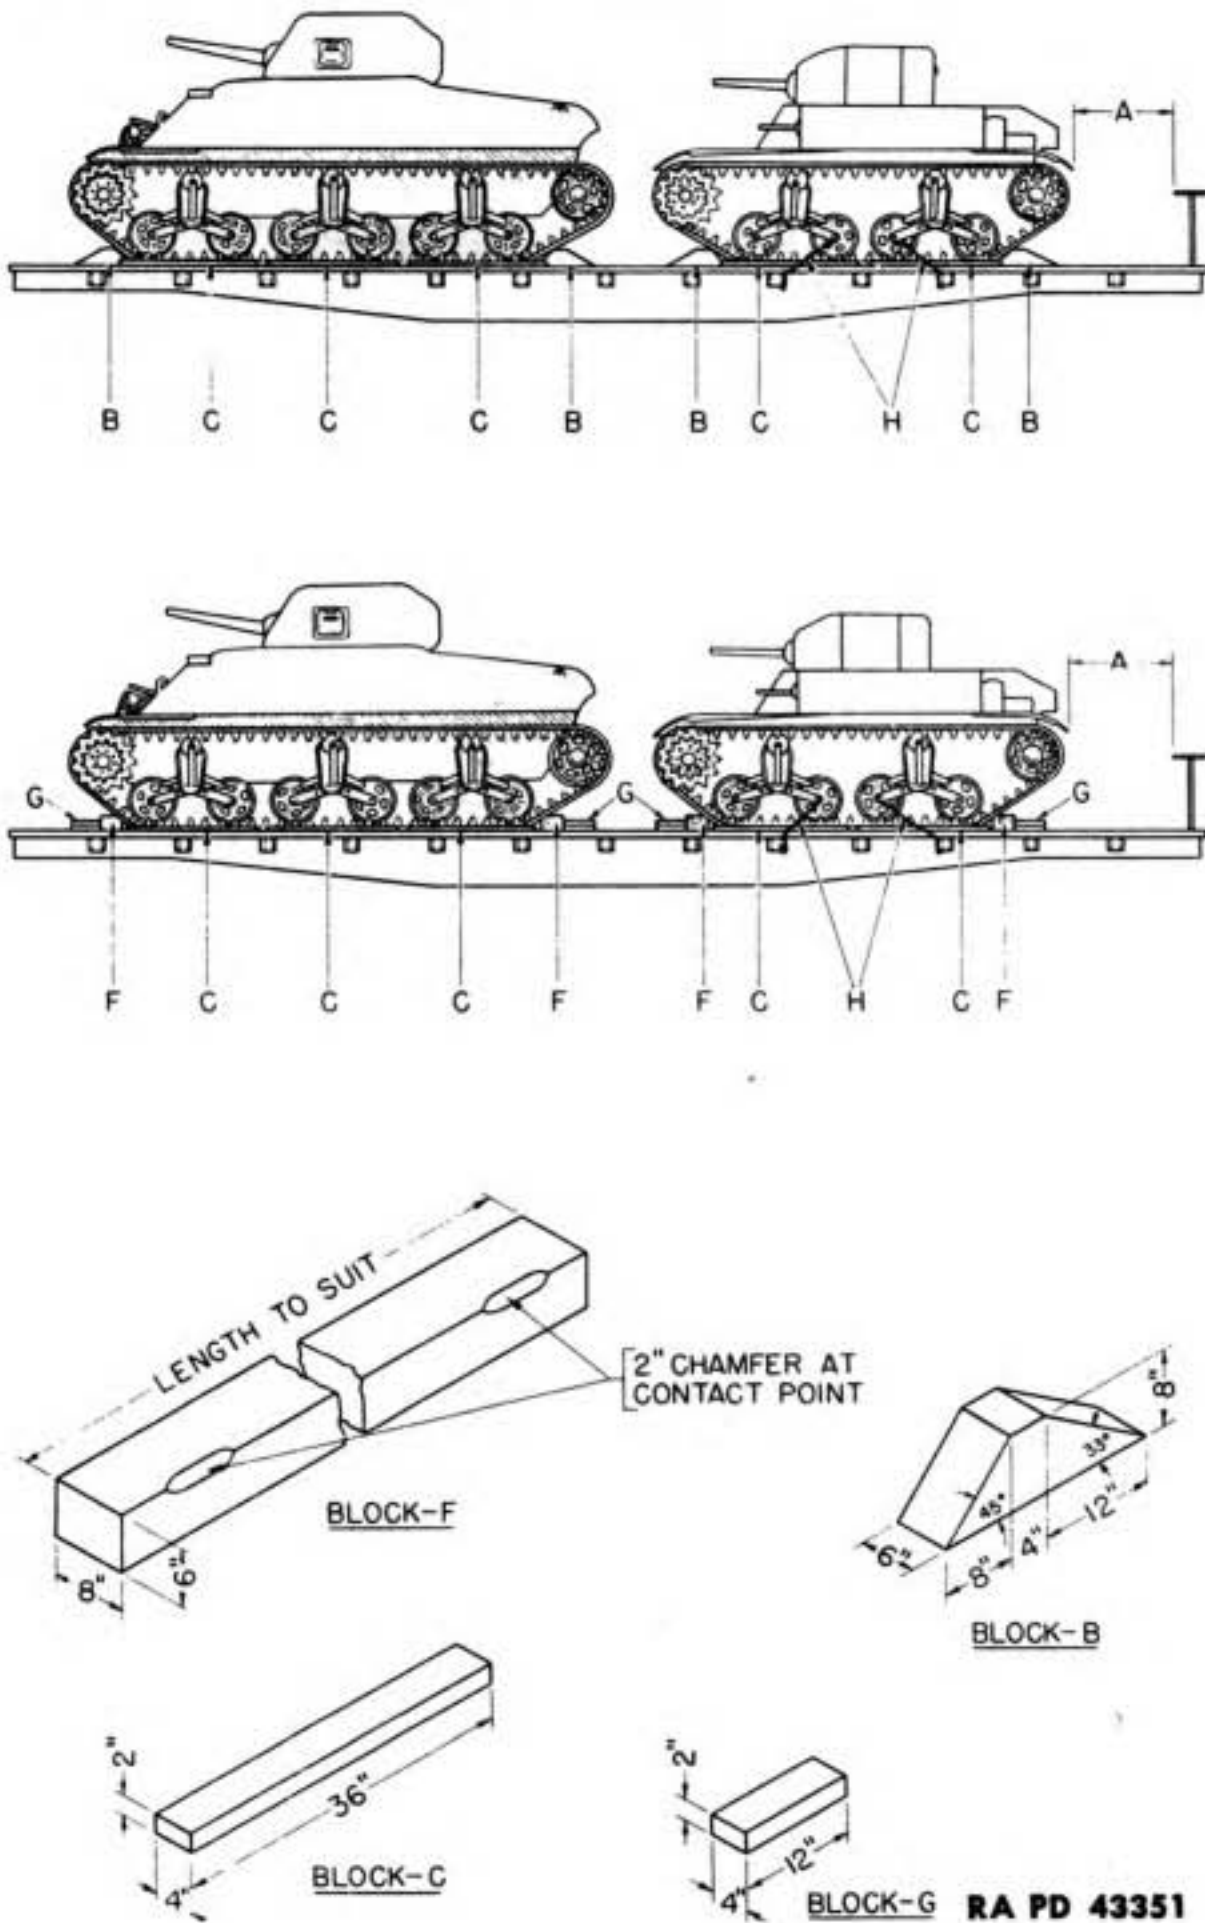

Figure 199—Blocking Requirements
(3) **BRAKES.** The brakes must be applied and the transmission placed in low gear after the vehicle has been placed in position with a brake wheel clearance of at least 6 inches (fig. 199, "A"). The vehicles will be located on the car in such a manner as to prevent the car from carrying an unbalanced load.
(4) All cars containing ordnance vehicles must be placarded "DO NOT HUMP."
(5) Ordnance vehicles may be shipped on flat cars, end-door box cars, side-door box cars, or drop-end gondola cars, whichever type car is the most convenient.
c. Securing Vehicles. In securing or blocking a vehicle, three motions—lengthwise, sidewise, and bouncing—must be prevented. Following are two methods involving the minimum allowed requirements for blocking medium tanks or freight cars (fig. 199).
(2) **METHOD TWO.** Place two "Blocks-F"—one to the front and one to the rear of the tracks (fig. 199). These blocks are to be at least 99 inches long. Locate eight "Blocks-G" against "Blocks-F" to the front and to the rear of each track. Nail the lower of these blocks to the car floor with three 40-penny nails, and also the top block to the one below it with three 40-penny nails. Locate three "Blocks-C" on each side of the vehicle, on the outside of each track. These blocks may be placed on the inside of the tracks if conditions warrant. Nail each of the "Blocks-C" to the car floor with three 40-penny nails.